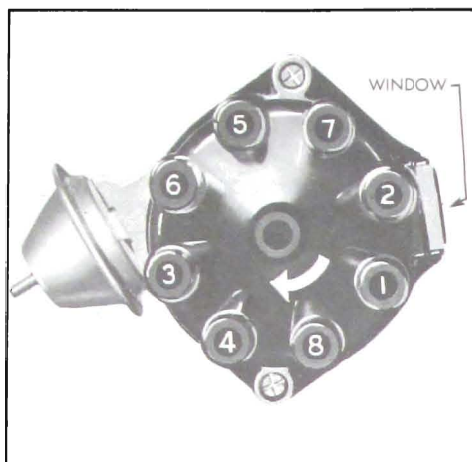

Figure 10-46—Installing Spark Plug Wires in Cap-300 Engine
5. Install distributor cap. Make sure that spark plug wires are correctly installed in distributor cap, through clips on rocker arm covers, and on spark plugs. See Figure 10-46 or 10-47.
vance unit. The other wires are then installed in a clockwise direction according to the firing order. See Figure 10-46 or 10-47.